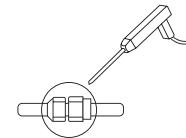

Fig. 4-3
- Leakage checking of refrigerant at the coupling by gas leak detector or soapsuds, as shown in Fig. 4-3.